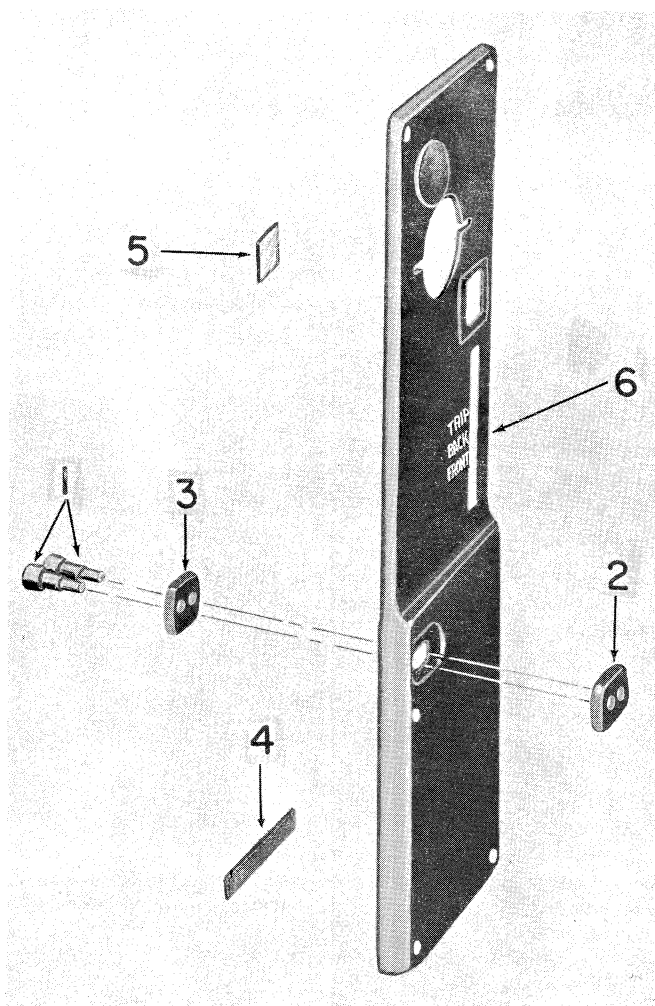

Figure 5. Shutter Plate Cover Assembly,
(a) Tear out the tension roller seal (10), cemented around the lower tension roller gear. (This seal is no longer considered necessary and can be discarded since light seals (4, figure 5) and (16, figure 6) are sufficient protection.)
(4, figure 5) to remove dust and grit that may have collected.
4. Contacts. Check the height of the receptacle contact (27, figure 12) and the receptacle jumper (28). Both of these must be arched above the wood surface at least 3/16 inch so that they will make positive contact with the receptacle contact studs (1, figure 5). Check the curvature of the spring finger contact (13, figure 2); these contacts should be arched evenly not more than 5/32 inch above the block. If the short and long switch contacts (30 and 31, figure 12) are causing an electrical short, remove the body release plate assembly (34), paragraph VII. A. and replace the contacts.
(c) Rotate the winding key until "0" appears squarely in the upper half of the speed shutter dial window (5, figure 5) when the upper master gear pin is stopped against the top step of the escapement (1, figure 6).